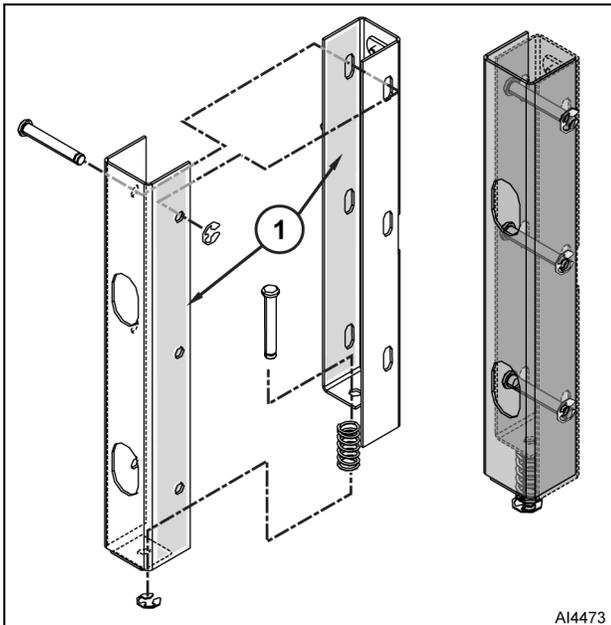

Fig. 17
3. Remove E-clip (Fig. 17) from latch assembly pins and pull pins from latch mechanism.
NOTE: Apply Lubriplate 630AA (1, Fig. 17) to sides of sliding bracket.